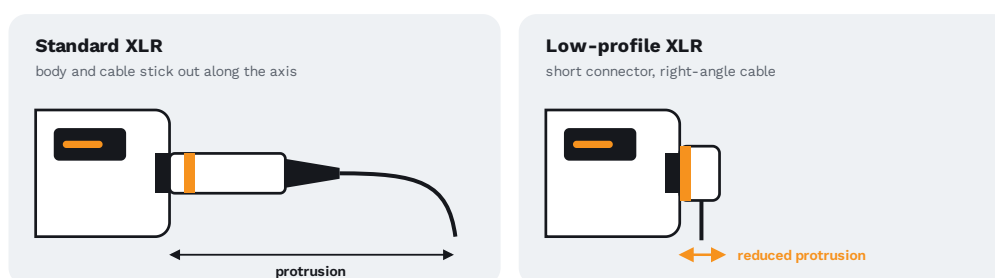

Fig. 2.2 The two XLR terminations offered when ordering. The low-profile one sticks out far less from the recorder: handy in a small bag. Principle diagram.
- 4 **XLR version**: powered by 48V phantom, standard or low-profile connectors (Fig. 2.2).